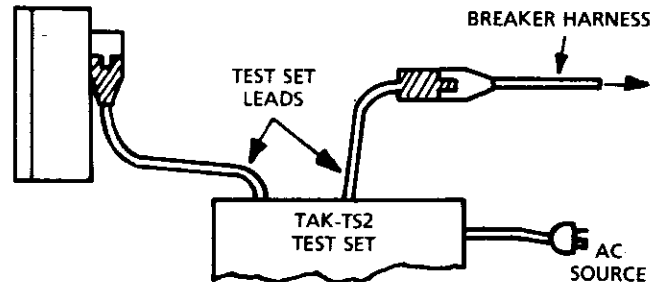

Fig. 5. Connection for Complete System test
3. The test set male connector lead need not be connected to the breaker harness for "Programmer Only" testing. However, the Fig. 5 connection should be used if "Complete System" tests are to be run also.
"Complete System" Test (Mode B) (See Fig. 5)